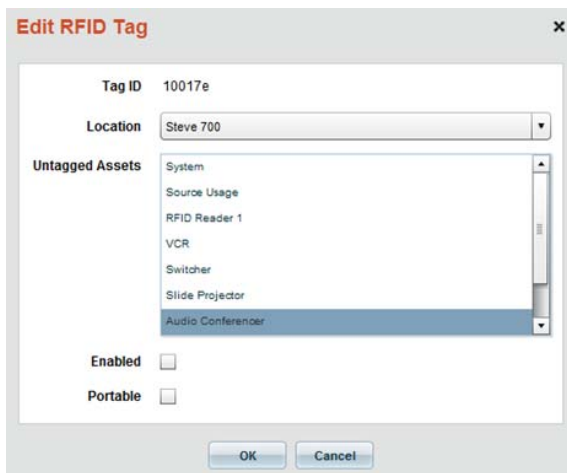

FIG. 431 Edit RFID Tag dialog
2. Click the **Assign** button. This opens the *Edit RFID Tag* dialog (FIG. 431):